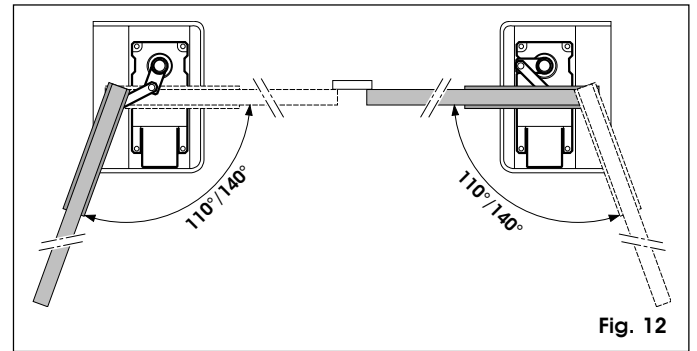

Fig. 12
**Note:** In order to determine the exact position of the operator with the levers for 110° and 140° opening, please refer to fig. 12.